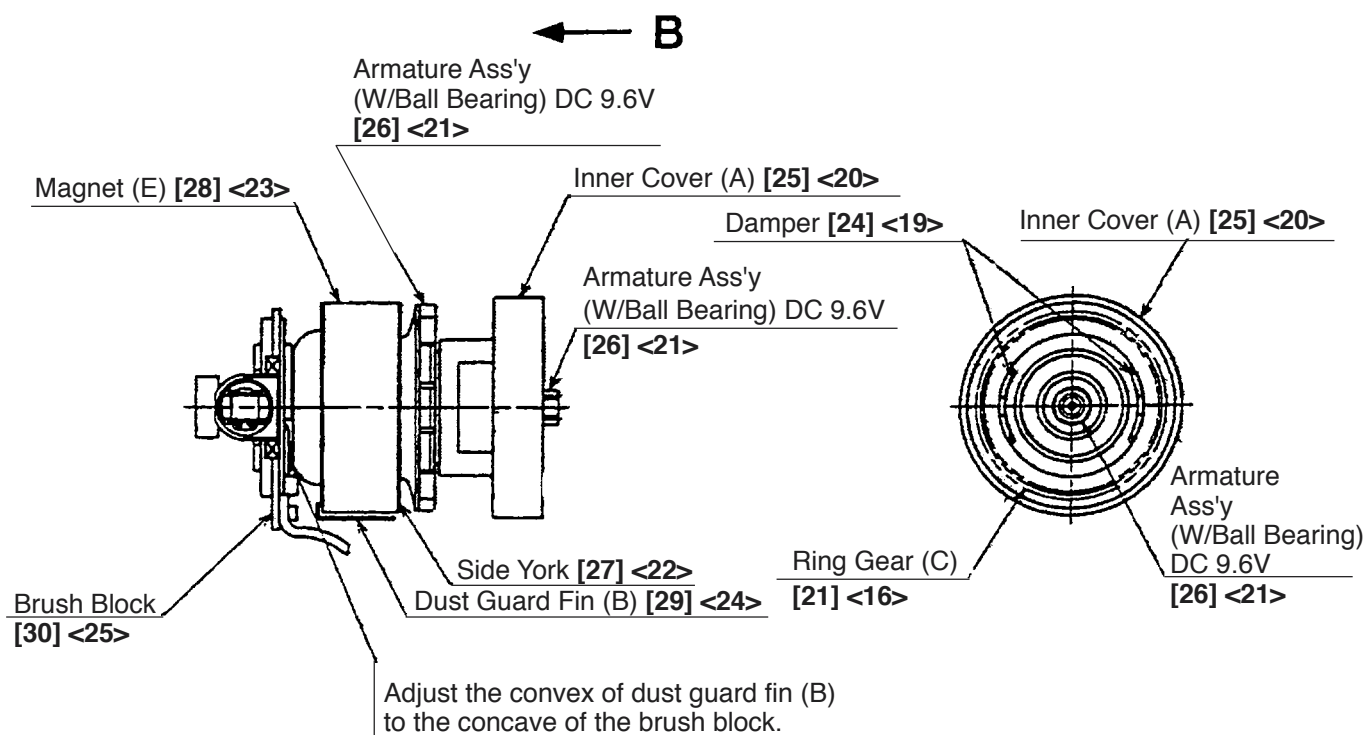

Fig. 10
(10) Removal of Magnet (E) [28] <23>, Dust Guard Fin (B) [29] <24> and Side Yoke [27] <22>
Magnet (E) [28] <23> has a strong magnetism. Pull Magnet (E) [28] <23> in the "B" direction (see Fig. 10) holding Inner Cover (A) [25] <20> securely to remove it. Dust Guard Fin (B) [29] <24> and the Side Yoke [27] <22> can be easily removed from Magnet (E) [28] <23> by holding Magnet (E) [28] <23> securely and pulling them in the direction of diameter because they are mounted to Magnet (E) [28] <23> magnetically.